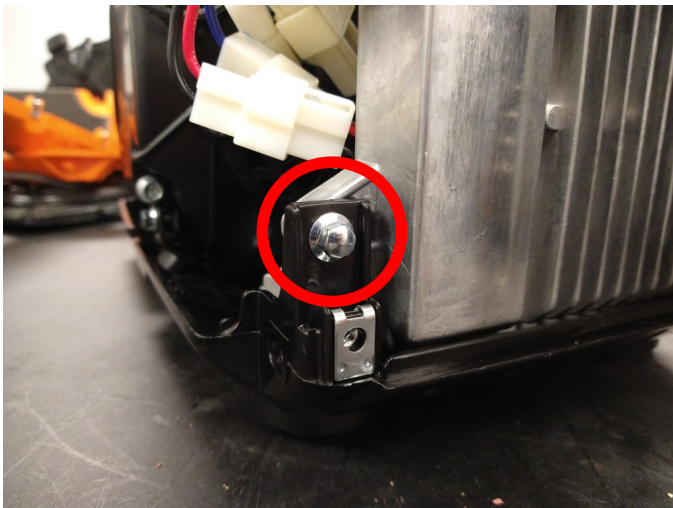

Fig. 11: Left inverter mounting bolt.
13. Gently move the control panel out of the way to expose the 2 inverter mounting bolts (Figs. 11 & 12). Loosen and remove them with the 8mm socket. Then move the inverter out of the way.